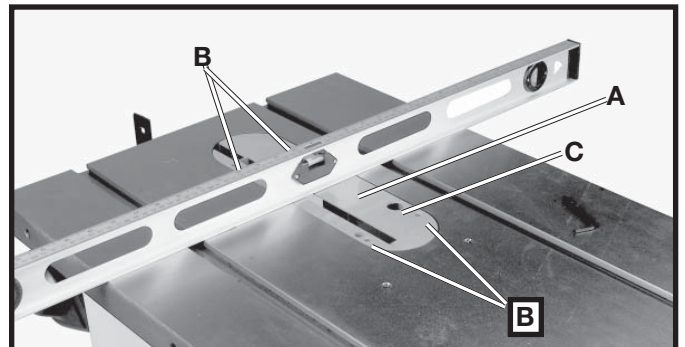

Fig. 65
Place a straight edge across the table at both ends of the table insert (A) Fig. 65.